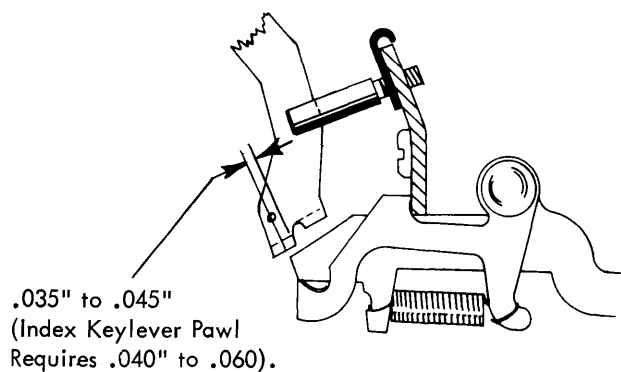

FIGURE 104. Keylever Pawl Overlap Adjustment
1. Keylever Pawl Overlap - Adjust each keylever pawl guide stud so that all the keylever pawls, except the index keylever pawl, overlap their respective interposers by $.035''$ to $.045''$ with both parts at rest (Fig. 104). The index keylever pawl guide should be adjusted for $.040''$ to $.050''$ overlap. The overlap insures proper repeat/non-repeat action.